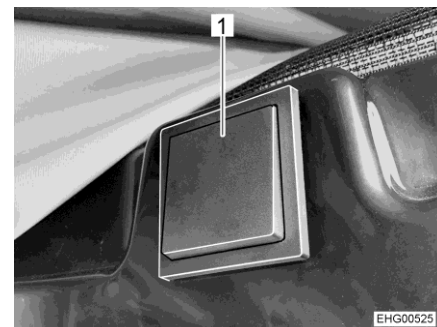

Fig. 48 Push button for electrical release
The push button for the electrical release (Fig. 48) is located on the right-hand side in the area above the sliding door.
- Press and hold the push button (Fig. 48,1) for least 2 seconds.